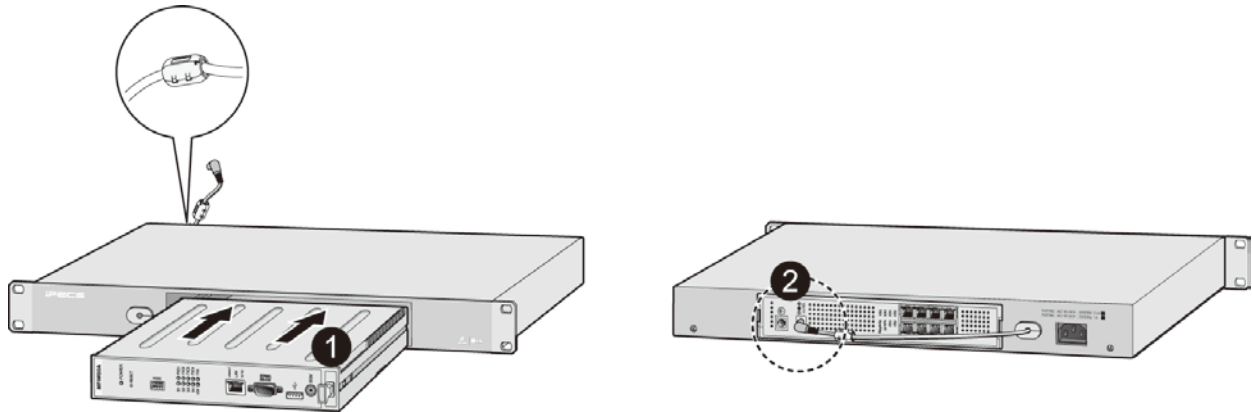

Figure 5.6-2 1U-RMB Gateway Installation
2. Install the gateway Module into the 1U-RMB and connect the adapter plug. Refer to Figure 5.6-2.